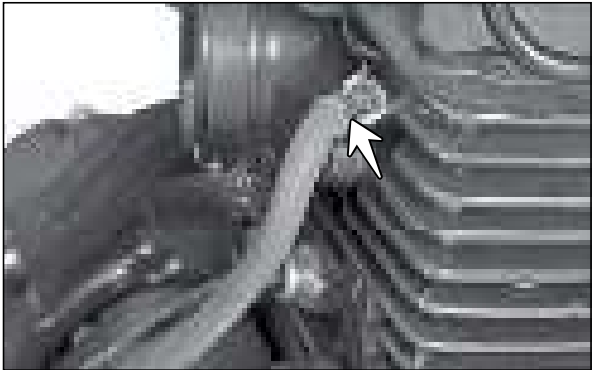

Fig. 3.30
- Remove the hose air cut valve of secondary air injection assembly by dislocating the hose clip. (Fig. 3.30)